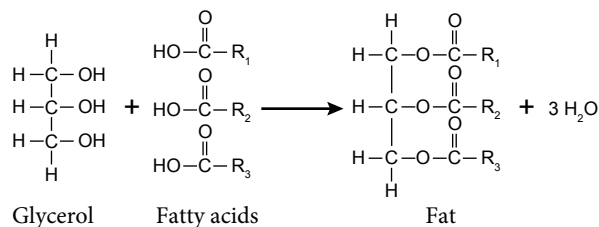

Figure 5.1 Esterification reaction
- An example of an esterification reaction between fatty acids with glycerol to form fat is shown in Figure 5.1